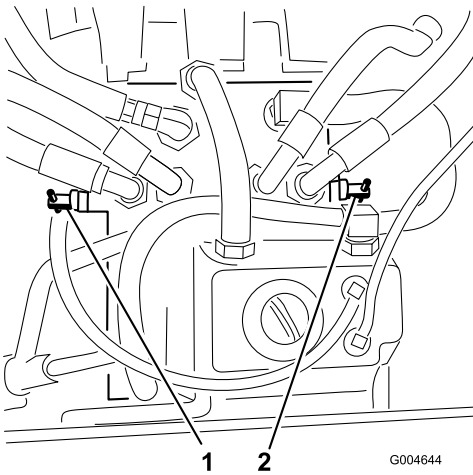

Figure 26
3. Rotate **both** by-pass valves counterclockwise 1 turn (Figure 26).
Rotate each by-pass valve clockwise and hand tighten them (torque of approximately 71 in-lb (8 N·m)) (Figure 26).